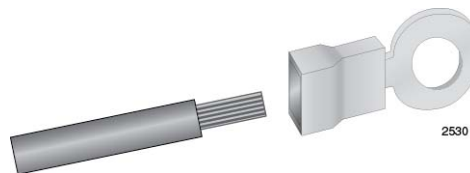

Figure 109. Attaching the Stranded Grounding Wire to the Grounding Terminal
2. Insert the grounding wire into the grounding terminal provided with the power supply and use a crimping tool to secure it to the grounding terminal. See Figure 109,